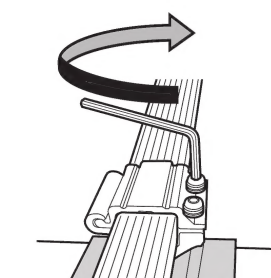

fig. 4
**8** Close the cap, tighten the hex bolts until the spring washer is flat and then turn hex bolt another 1/2 turn by the provided wrench. And attach the end cap that comes with the crossbar. (fig.4)